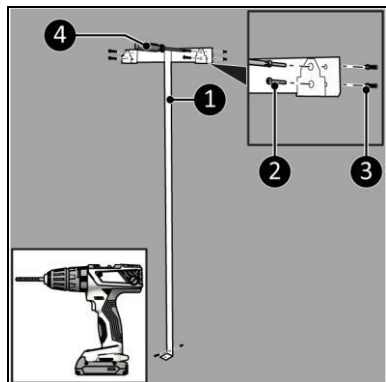

Figure 9
4. Place the wall bracket against the wall and mark the five holes (Figure 9).
6. Place the plugs (Figure 9, pos. 3).
7. Screw and tighten the wall bracket (Figure 9, pos. 1) to the wall with five large screws (Figure 9, pos. 2) using a Phillips screwdriver (Figure 9, pos.4).